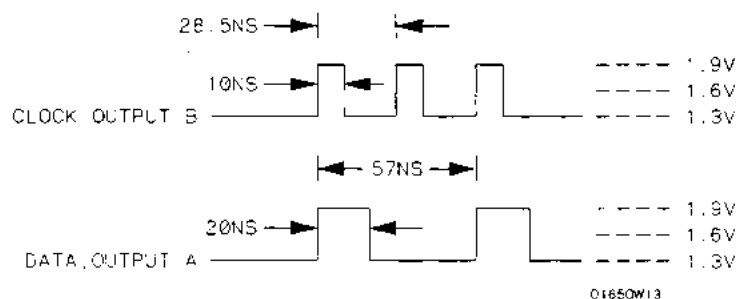

Figure 3-20. Waveform for Data Test 4
- Adjust the pulse generator for the output in figure 3-20.